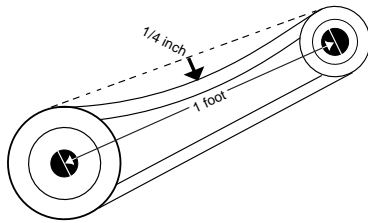

Figure 3
- Slide the motor plate back until proper tension is reached. For proper tension a deflection of approximately 1/4" per foot of center distance should be obtained by firmly pressing the belt. Refer to *Figure 3*.